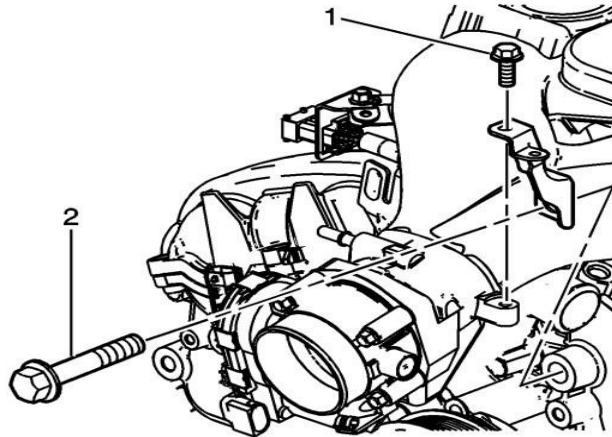

Fig A17.36 Installation of Intake Manifold Brace
A17.6.3 Place the intake manifold brace to the engine front cover and intake manifold (see Fig A17.36 (1)) and tighten to 10 N·m and install and tighten the intake manifold brace bolt (See fig A17.36 (2)) to the engine front cover to 65 N·m.